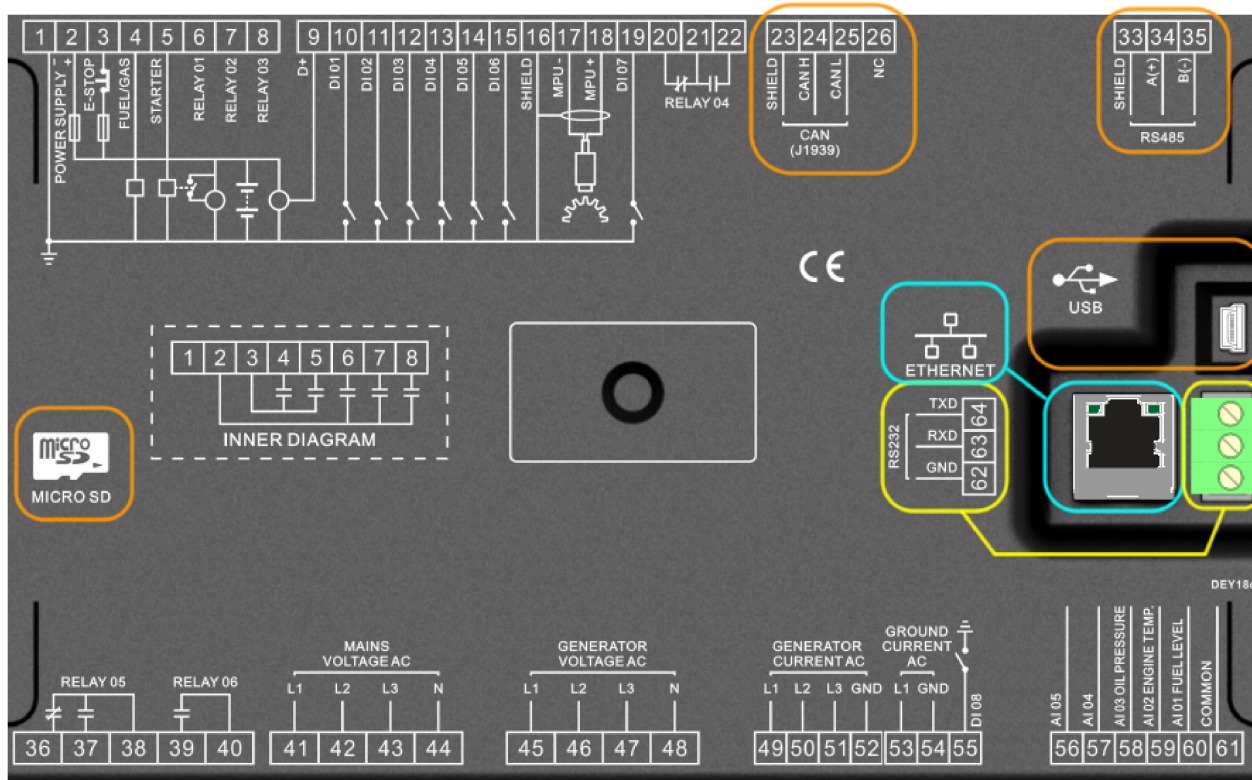

Fig. 7: Interface Connections
*Location of the SD card: see Fig. 7*